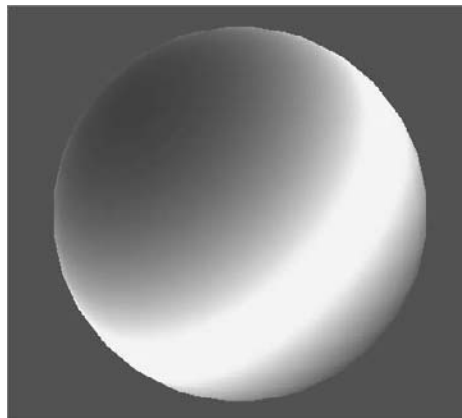

Figure 7.32
*Translucence* is where light is scattered as it passes through the material—for example, when a flashlight shines behind a sheet of parchment. The Translucent shader (Figure 7.32) is very similar to the Blinn; however, this shader adds a touch of translucency to the material.